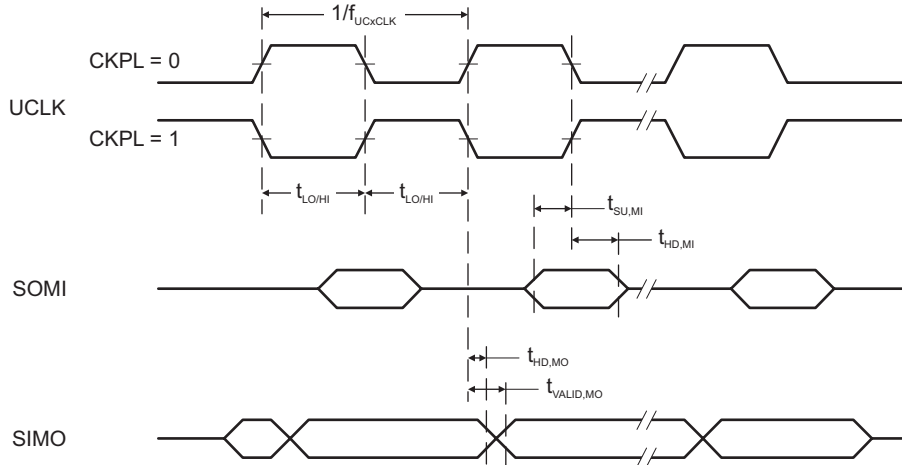
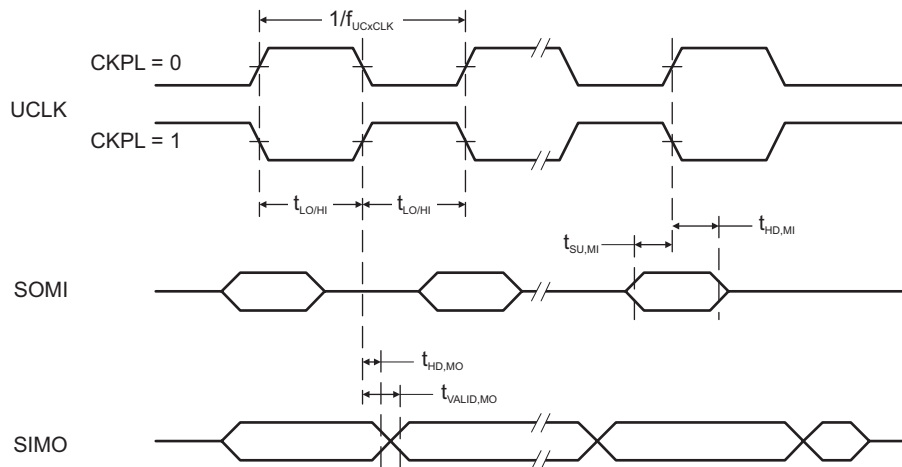

Figure 5-16. SPI Master Mode, CKPH = 0
Figure 5-17. SPI Master Mode, CKPH = 1
over recommended ranges of supply voltage and operating free-air temperature (unless otherwise noted)⁽¹⁾ (see Figure 5-16 and Figure 5-17)
(2) Specifies the time to drive the next valid data to the SIMO output after the output changing UCLK clock edge. See the timing diagrams in Figure 5-16 and Figure 5-17.
(3) Specifies how long data on the SIMO output is valid after the output changing UCLK clock edge. Negative values indicate that the data on the SIMO output can become invalid before the output changing clock edge observed on UCLK. See the timing diagrams in Figure 5-16 and Figure 5-17.